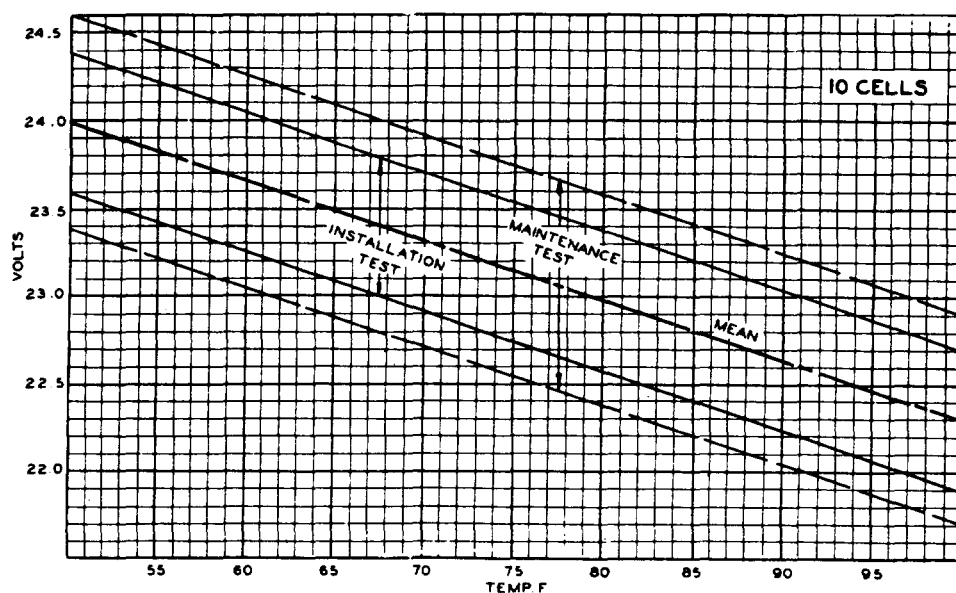

Fig. 3 – 253A Relay Operate Limits (Without Rheostat)
2.02 **The 253A and 253B relays for 8, 10 or 11 cell batteries without rheostats** in the relay coil circuit to reduce the charge, shall meet the operate values shown in Fig. 3, 4 or 5 as indicated.
(1) Set up the connections, stabilize the relay, and determine the temperature and operate voltage of the relay as outlined in 3.01. If the operate voltage is within the installation test limits specified for the temperature shown in Fig. 3, 4 or 5 for the type battery being used, no further action is required. If it is not within the limits, readjust as follows.
(2) To readjust the operate value, leave the voltage on the winding at the last operate value. To permit the checking of the trial adjustments immediately after adjustment with the cover off, it is first necessary to determine the effect on the operate voltage resulting from removing the cover. For example, assume that a relay requiring adjustment operated at 25.0
(7) Where the relay winding is not normally energized, leave the voltage on the winding at approximately the desired operate value for 20 minutes or more before checking the operate voltage.
(8) If the operate voltage, based on room or estimated temperature, is outside of the maintenance test limits in Fig. 3, 4 or 5, no attempt at readjustment, either electrical or mechanical, should be made without checking the temperature adjacent to the relay with the recommended thermometer. If the operate voltage is still outside the limits based on an actual temperature reading at the relay, readjust as outlined in (2), (3), (4), and (5).